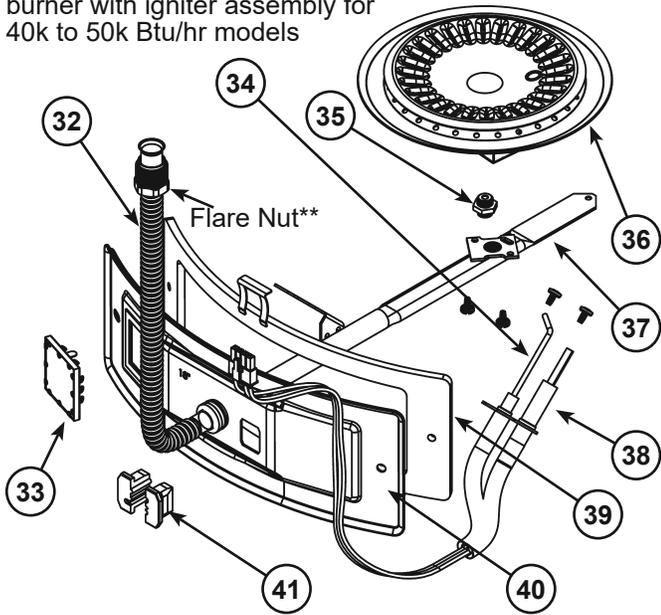
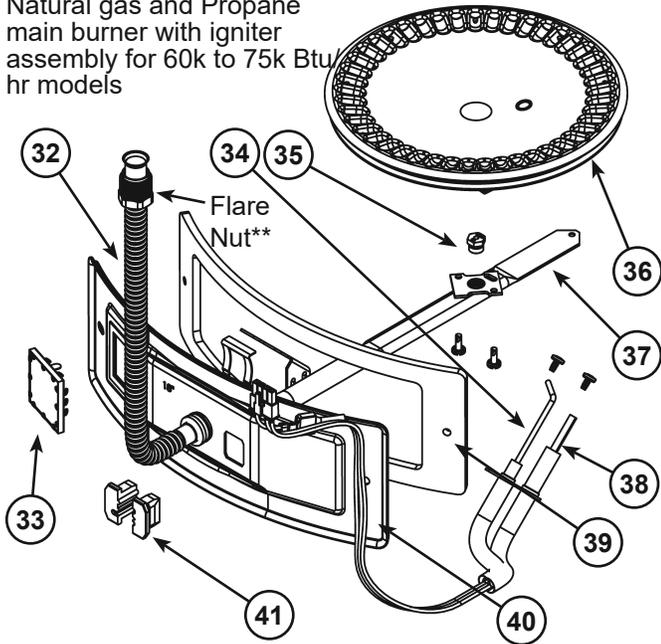

Figure 46
Figure 47
- 14 Manifold Door Assembly (behind outer door) (see Figure 6 & Figure 7) (see also Figure 46 & Figure 47)
- 32 Flexible Manifold Tube (see Figure 6 & Figure 7) (see also Figure 46 & Figure 47)
- 33 Viewport (see Figure 6 & Figure 7) (see also Figure 46 & Figure 47)
- 34 Flame Sensor Rod (see Figure 6 & Figure 7) (see also Figure 46 & Figure 47)
- 35 Gas Orifice (see Figure 6 & Figure 7) (see also Figure 46 & Figure 47)
- 36 Sheet Metal Burner (see Figure 6 & Figure 7) (see also Figure 46 & Figure 47)
- 37 Gas Manifold (see Figure 6 & Figure 7) (see also Figure 46 & Figure 47)
- 38 Hot-Surface Igniter (see Figure 6 & Figure 7) (see also Figure 46 & Figure 47)
- 39 Manifold Door Gasket (see Figure 6 & Figure 7) (see also Figure 46 & Figure 47)
- 40 Manifold Door (see Figure 6 & Figure 7) (see also Figure 46 & Figure 47)
- 41 Two Piece Grommet With Clip (see Figure 6 & Figure 7) (see also Figure 46 & Figure 47)